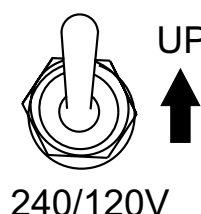

Figure 21. Full Power Switch 120V Position (Up)
10. Place the full power switch (Figure 21) in the 120V position (up).